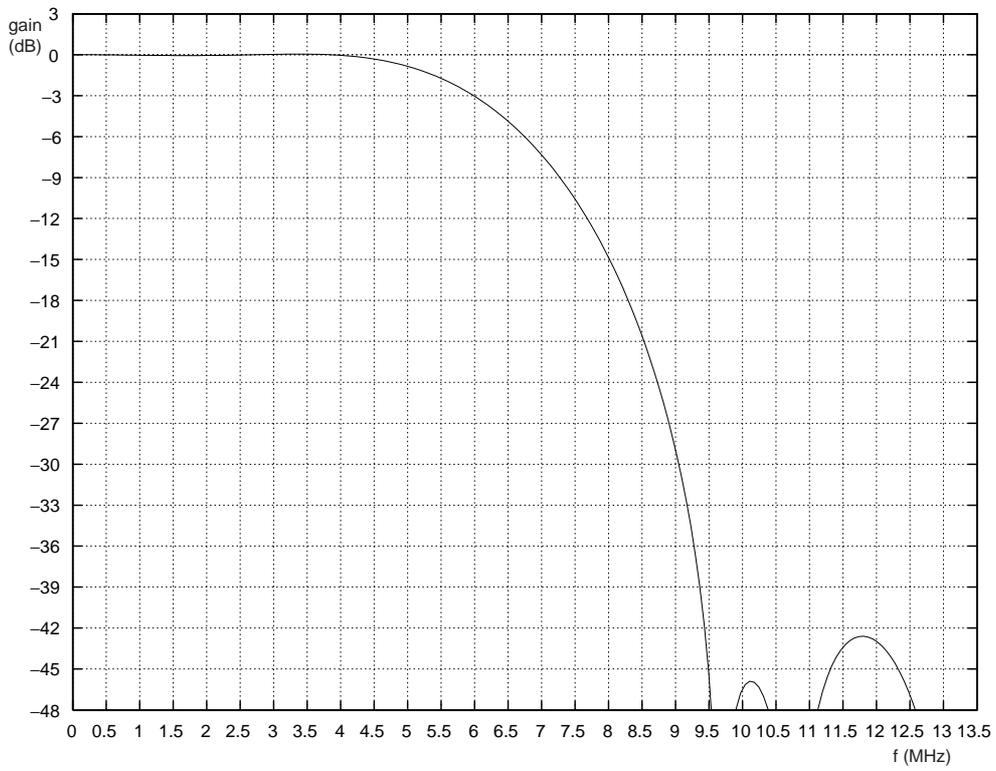

Fig.4 Decimation filter.
The SAA7115 offers six analog signal inputs, two analog main channels with source switch, clamp circuit, analog amplifier, anti-alias filter and video 9-bit CMOS ADC with a Decimation Filter (DF); see Figs 4 and 7.